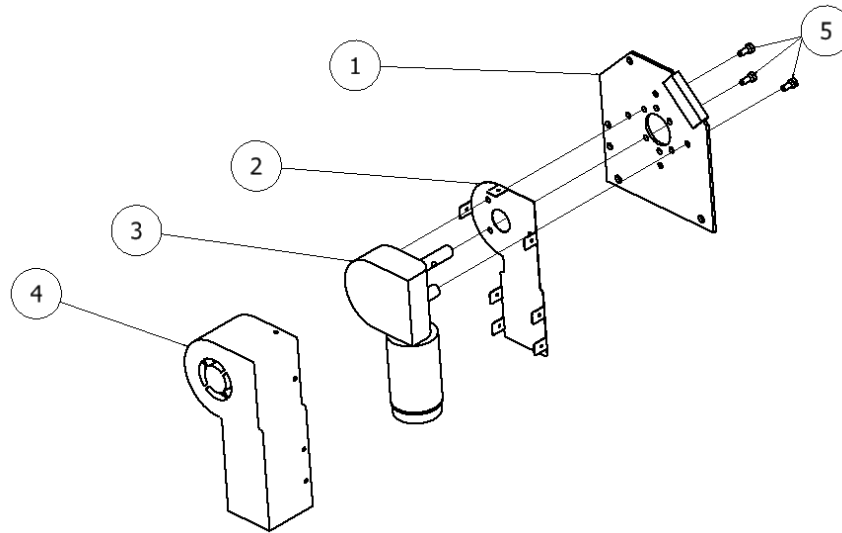

Figure C.1
Mount the bulletproof motor (3) to the tarp spool mounting bracket (1) on the driver's side of the dump box with the chrome motor cover plate (2) sandwiched between the motor and the tarp spool mounting bracket. Use the three supplied M8 grade 5 bolts (5) for mounting the motor. (Figure C.1)